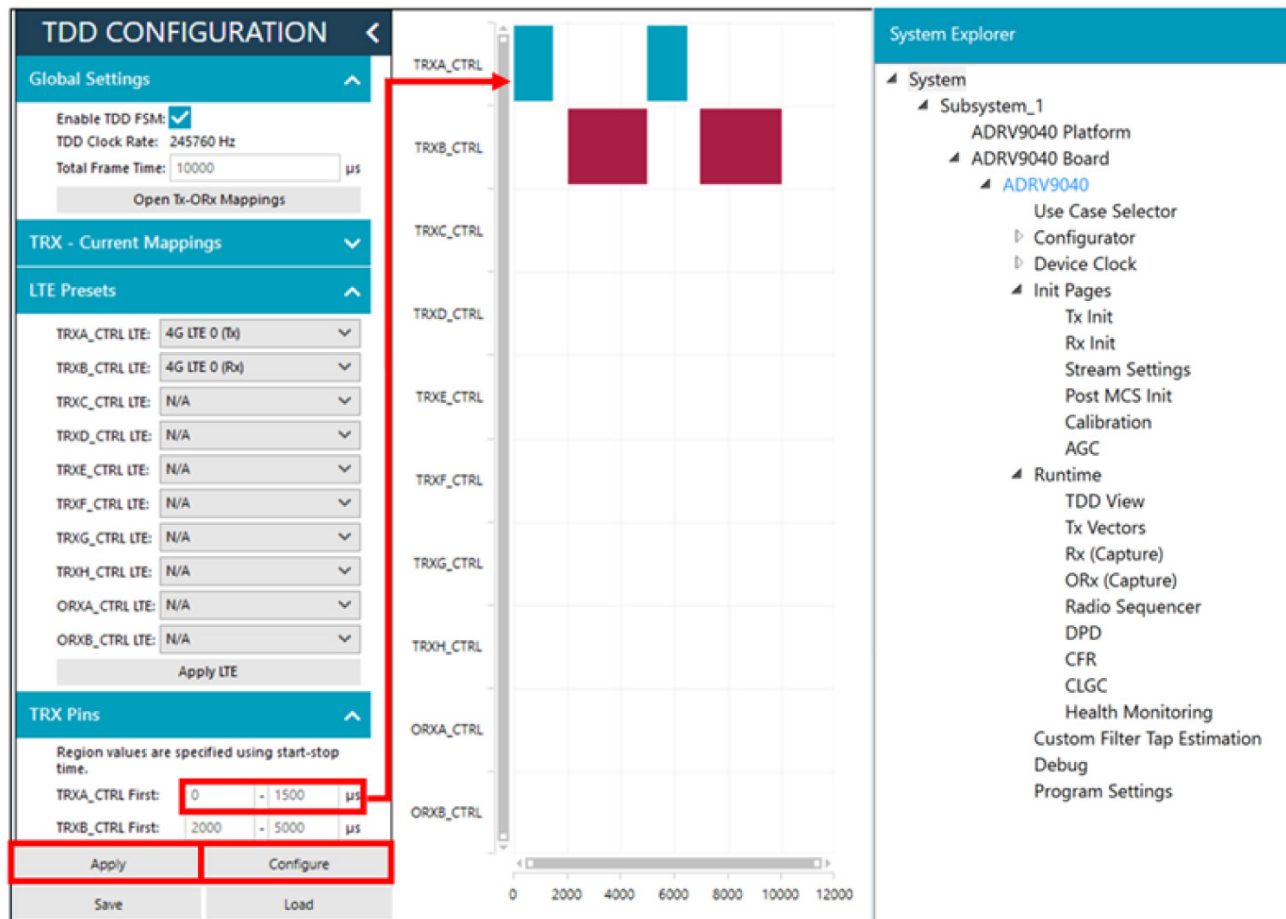

Figure 62. TDD Configuration Page Used to Specify Enable Timings for Each CTRL Pin and Configure the TDD State Machine
1. Enter start and stop times to specify a time range for driving each TRX\_CTRL pin. Four start and stop time ranges can be specified per pin. LTE presets can also be applied to each CTRL pin from under **LTE Presets**. Figure 62 applies **4G LTE 0 (Tx)** preset to **TRXA\_CTRL** LTE and **4G LTE 0 (Rx)** preset to **TRXB\_CTRL** LTE.